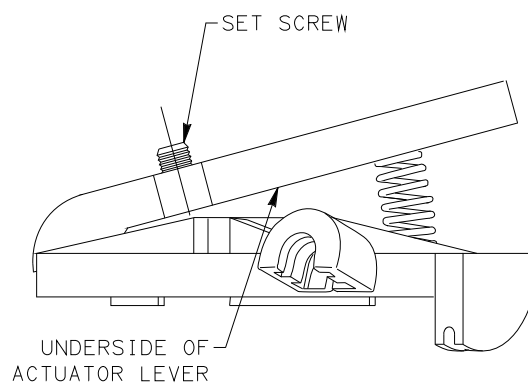

FIGURE 6
NOTE: BEFORE REINSTALLING PNEUMATIC ACTUATOR TO TILT, ROTATE SET SCREW COUNTERCLOCKWISE UNTIL IT IS FLUSH WITH UNDERSIDE OF ACTUATOR LEVER. SEE FIGURE 6.
12. USING 4 MM HEX KEY, ROTATE SET SCREW CLOCKWISE UNTIL PNEUMATIC CYLINDER (AT MID RANGE POSITION) ACTIVATES, THEN ROTATE SET SCREW COUNTERCLOCKWISE 1 1/4 TURN. SEE FIGURE 6.